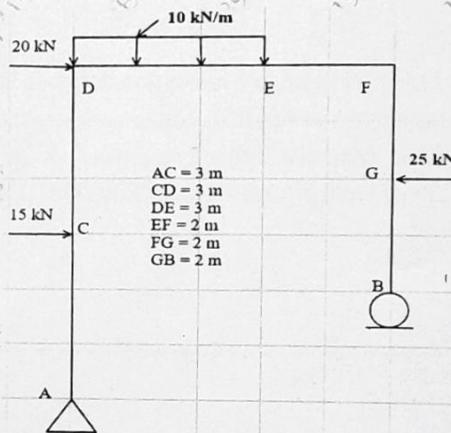

Fig: 01
- a Draw AFD, SFD and BMD for the figure 01, where support A is hinged and B is roller. 12